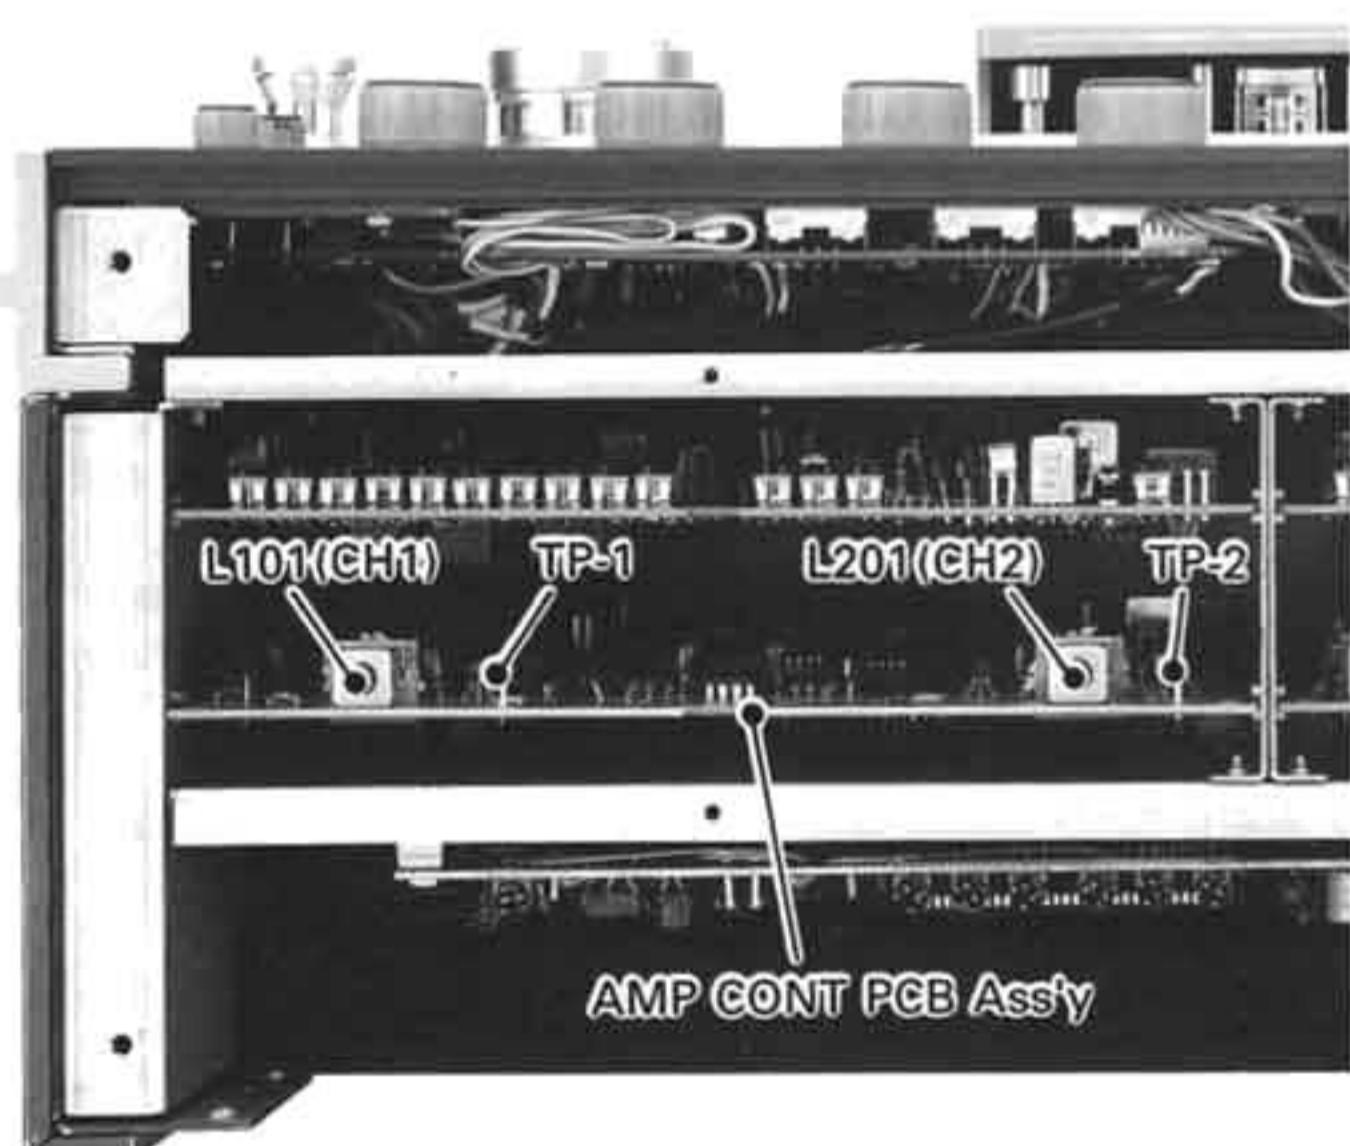

Figure 6-4. Test Points on AMP CONT PCB
- (For the gapless punch-in models only) Connect the DC voltmeter between TP-1 (CH 1)/TP-2 (CH 2) on the AMP CONT PCB (Figure 6-4) and TP-2 on the R/P AMP PCB.